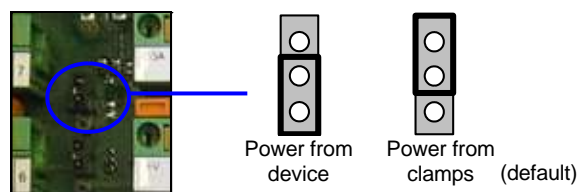

Figure 6—Power Source Jumper Settings
- Connect the Network Cable Shield (Shield) to Filtered Earth through the jumper (default setting, see Figure 6).
To power CBX800 from the reading device, the power source jumper must be placed in the "power from device" position as indicated in Figure 6.